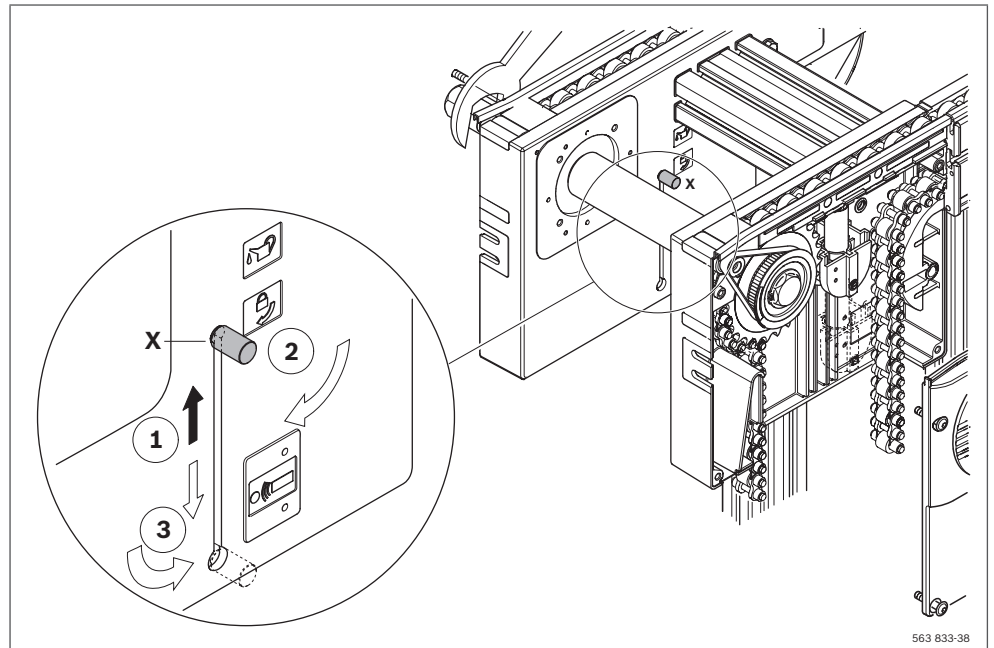

Fig. 56: Fixing the chain tensioner: "large" drive head
- Pull the chain tensioner (X) up and fix it in its end position by turning it 90° clockwise. (☞ Fig. 56, item 2).
- Loosen the chain tensioner by turning it 90° counterclockwise. (☞ Fig. 56, item 3).